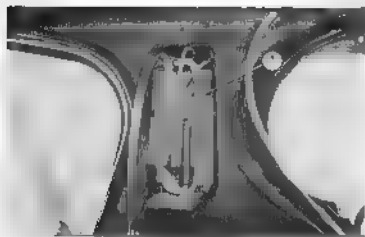

Fig. 5.35 Battery
- Remove the battery box, disconnect the battery cable from the battery, unfasten the battery band and then remove the battery (Fig. 5.35).